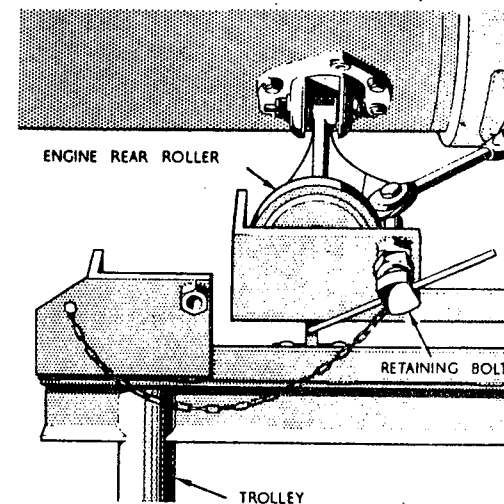

Fig. 17. Securing engine rear roller on trolley
(12) Withdraw the engine from the aircraft on to the trolley, and secure by placing the retaining bolts in front of the engine rear rollers at the end of the roller rails (*fig. 17*). Withdraw the split bolt to disengage the trolley from frame 40A. Lower the trolley on to its wheels and tow away.